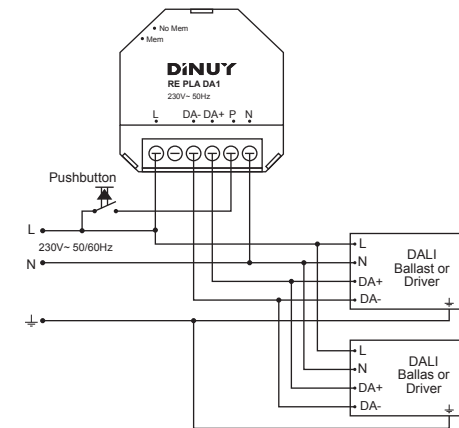

Fig. 2
- 2° - Install the dimmer according to the wiring diagram Fig. 2.